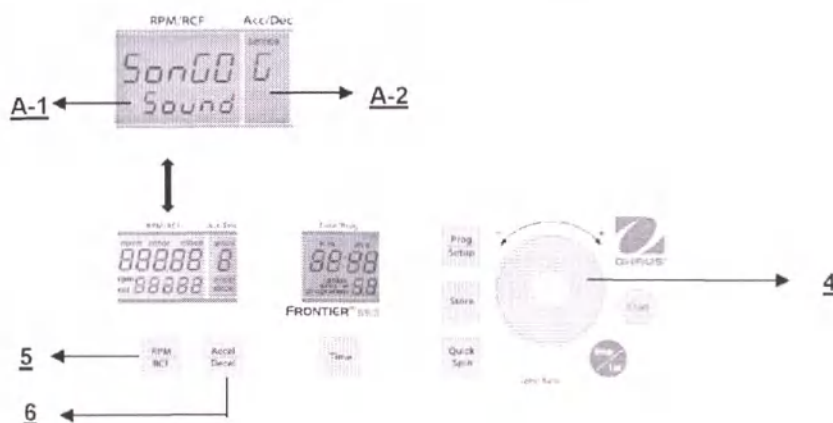

Figure 32
Proceed as described under point 4.1.2 to enter this program mode and then press the key **"Accel/Decel"** (6). In the display **"Acc/Dec"** (A-2) the word **"Service"** flashes. Now select the letter **"G"** with the adjusting dial (4). As a result, in the display **"RPM/RCF"** (A-1), the word **"SonGo/Sound"** appears. After pressing the key **"RPM/RCF"** (5), you can select a song with the adjusting dial (4). (See figure 32).